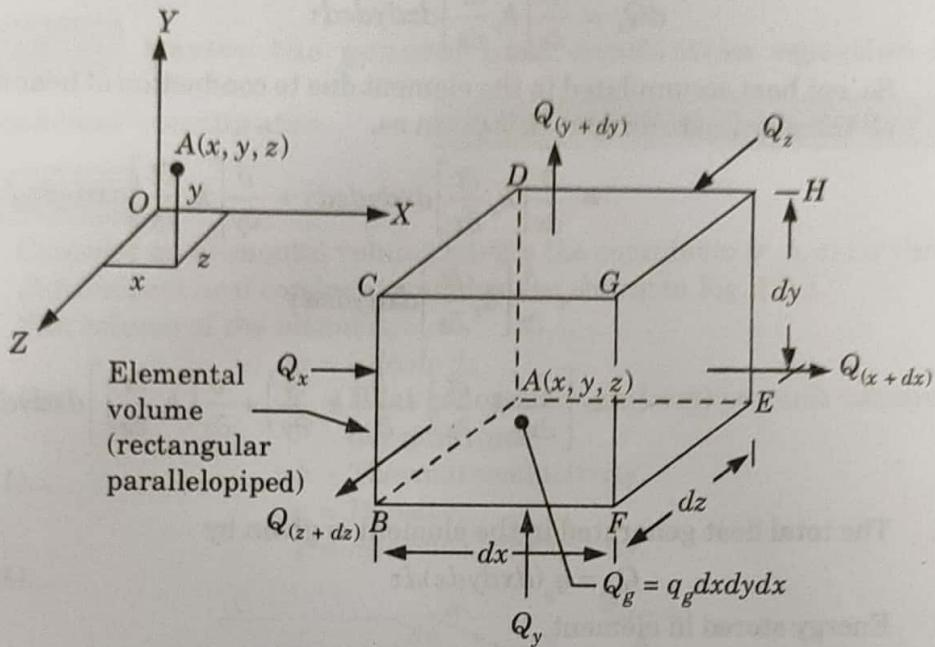

Fig. 1.6.1. Elemental volume for three-dimensional heat conduction analysis - Cartesian coordinates.
1. Consider an infinitesimal rectangular parallelopiped (volume element) of sides dx , dy , and dz parallel, respectively, to the three axes (X , Y , Z) in a medium in which temperature is varying with location and time as shown in Fig. 1.6.1.